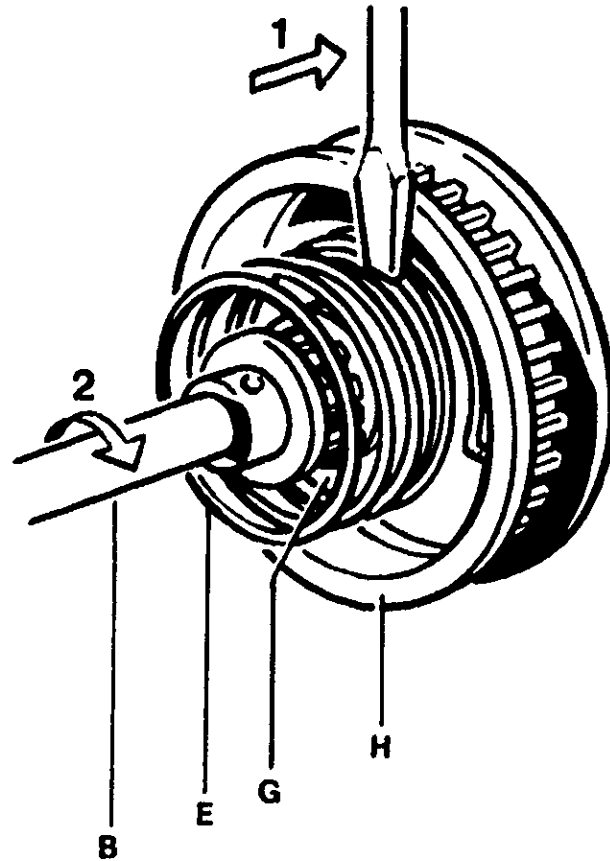

FIGURE 58
- To reinstall spring (E) (Figure 58) wrap some of its coils around pulley (G) so that a screwdriver blade will guide all spring coils around toothed wheel (H) inner sleeve